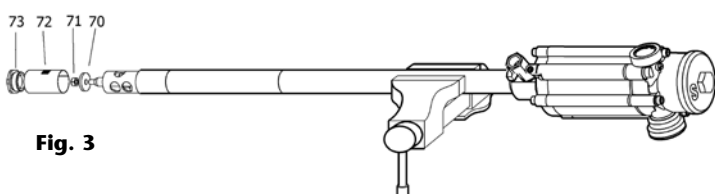

Fig. 3
2. Unthread the filter fixing (73) prime tube (69), remove the filter (72), unthread the screw (71) and remove the prime (70) (fig. 3).